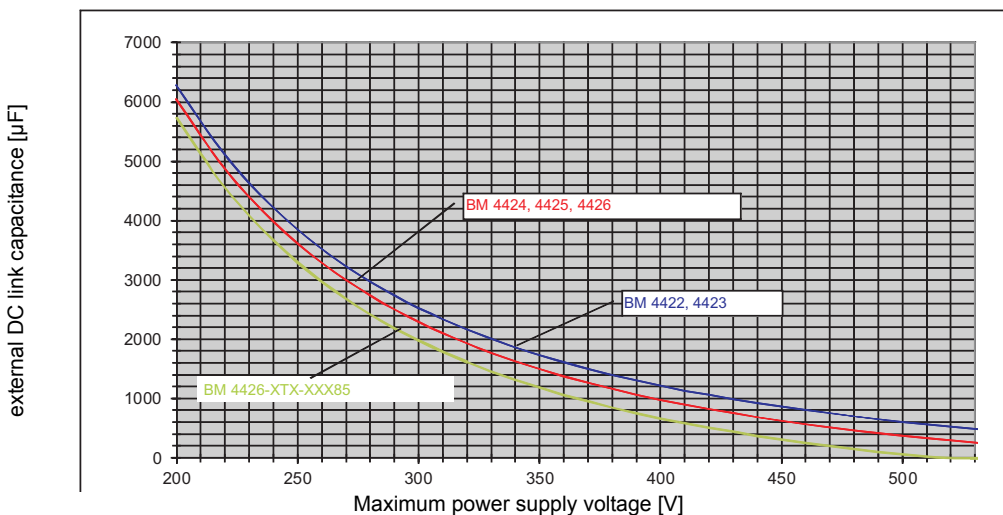

Figure 35: Maximum external DC link capacitance BM442X
DC link capacitance (external), permitted	Refer to ▶Figure 35◀ on page 71
DC link capacitance (external), permitted	Refer to ►Figure 35◄ on page 71
- 9) The specified value is only valid, if there is no additional DC link capacitance connected to the DC link terminals. Refer to ►Power on switching frequency / DC link charging◄ on page 231 and ►Figure 35◄ on page 71.